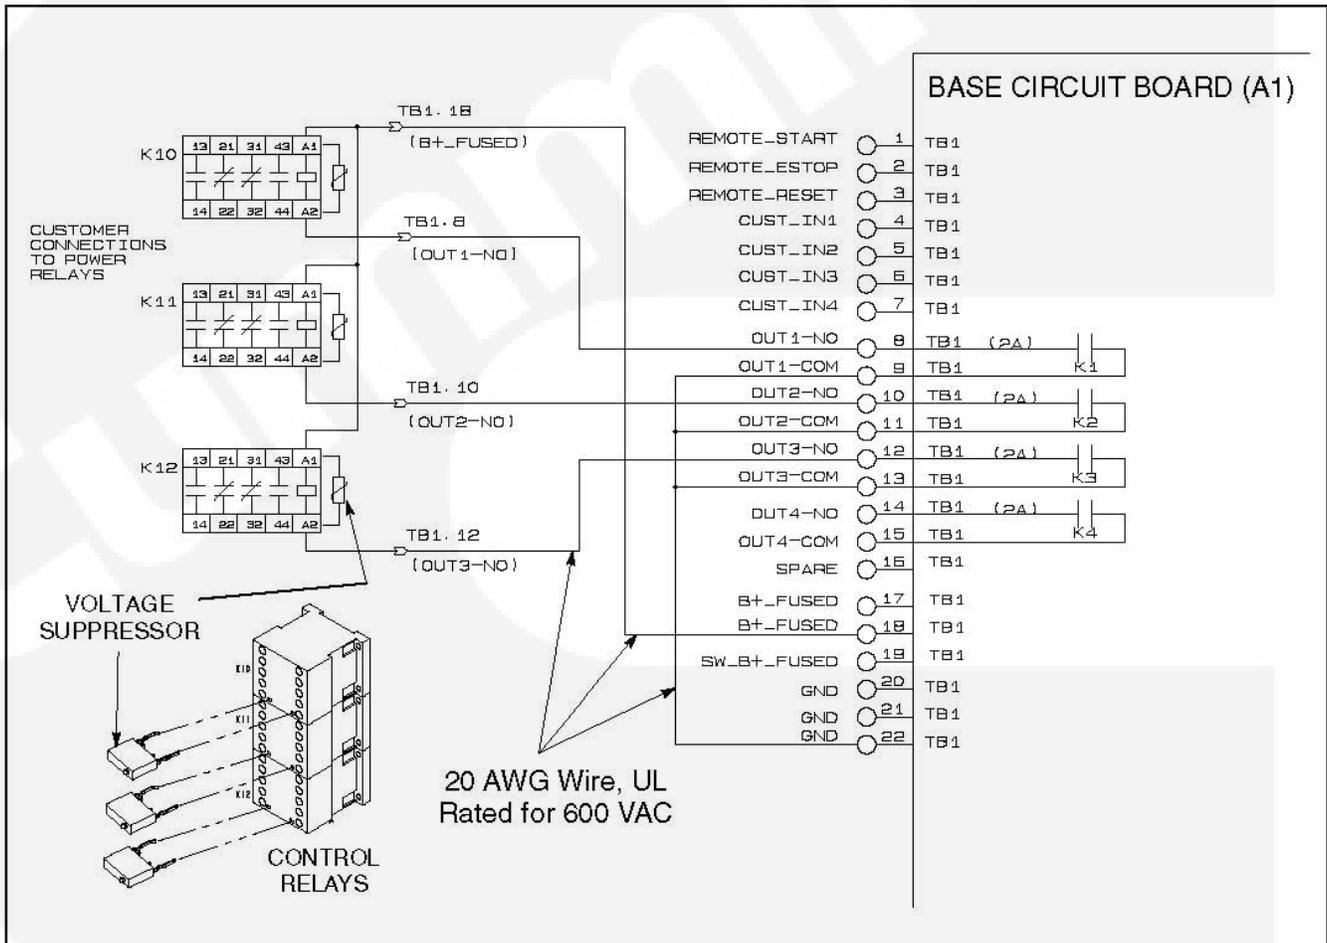

FIGURE 31. OPTIONAL CONTROL RELAYS (K10, K11, K12)
**CAUTION:** *Damage to the Base board can occur if the voltage suppressors (Figure 31) are not installed across relay coils (A1/A2) before connecting genset battery cables.*
These relays (Figure 31) are used to control auxiliary equipment, such as fans, pumps and motorized air dampers. Energizing of the relays is user definable (refer to *TB1 Customer Outputs* in this section for customizing information.)